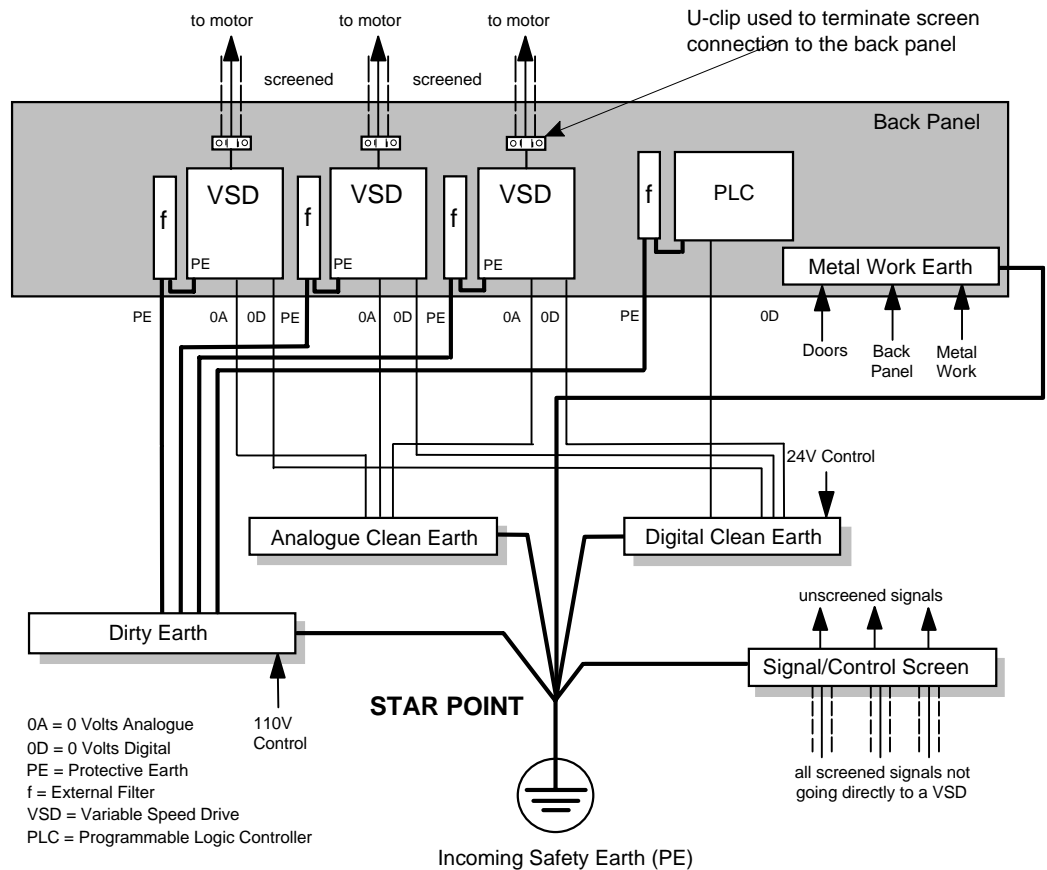

Figure 12-2 Star Point Earthing
- A single-star point earthing policy as shown in Figure 12-2 is required.
- The protective earth connection (PE) to the motor must be run inside the screened cable between the motor and VSD and be connected to the protective earth terminal in the gland box, or on the VSD.